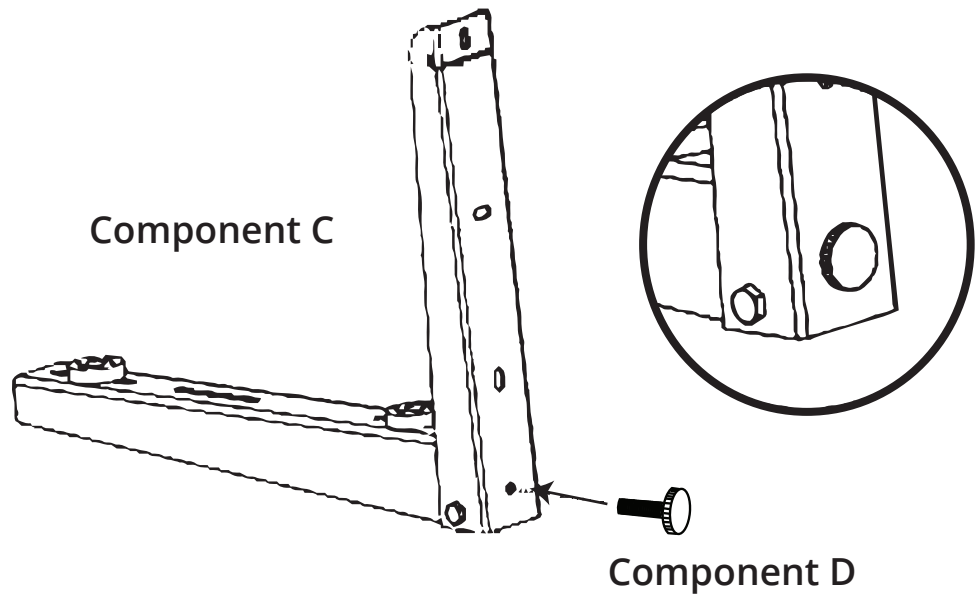

Fig. 2.2
2. Next, take one Component D (Fig. 2.2) and insert it into the singular hole at the base of the upright Component C support.